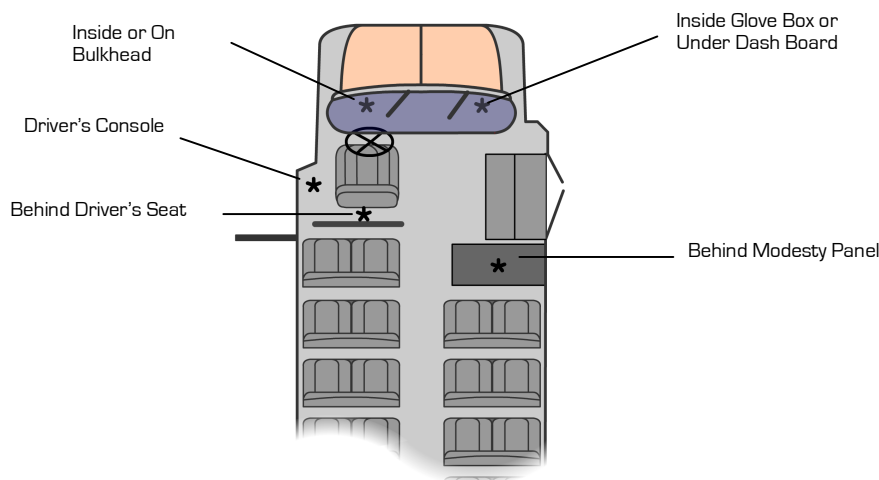

Figure 7: Recommended System Locations
- Preferred location for the NiTRO™ 1000 system is either on, or, inside the bulkhead, (see Figure 7).